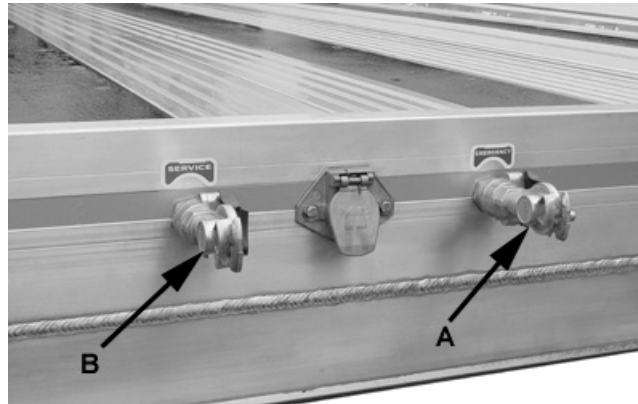

Figure 3-6 Connect Hoses And Electrical Connector
12. Connect the supply hose to glad hand (A), service hose to glad hand (B), electrical connector and if equipped, connect hose to the lift axle glad hand. See figure 3-6.